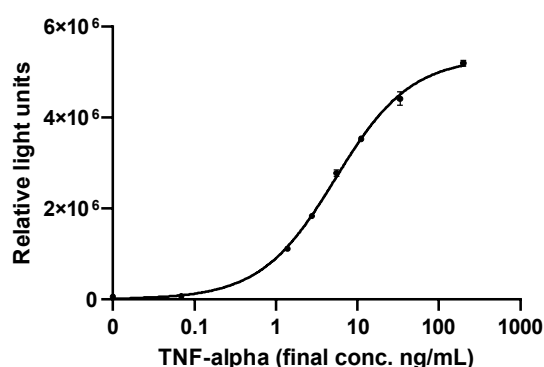

Figure 1. Example of TNF-alpha calibration curve.
The *iLite*® TNF-alpha Xcel Assay Ready Cells are engineered cells, optimized to be responsive to TNF-alpha, resulting in a proportional expression of Firefly Luciferase (FL). Binding of TNF-alpha to its receptor results in activation of the NFkB regulated Firefly Luciferase reporter gene construct. *iLite*® TNF-alpha Xcel Assay Ready Cells also contain the Renilla Luciferase (RL) reporter gene, under the control of a constitutive promoter. The constitutive expression of RL allows normalization of TNF-alpha induced FL activity, and renders assay results independent of variations in cell number or serum matrix effects. The luciferase signal can be measured in a luminometer following addition and incubation of luciferase substrate. The Firefly luciferase signal is proportional to the concentration of functional TNF-alpha in a sample (Fig.1).